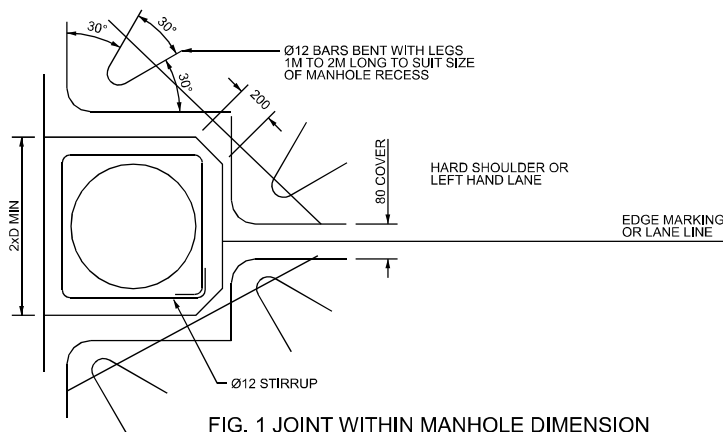
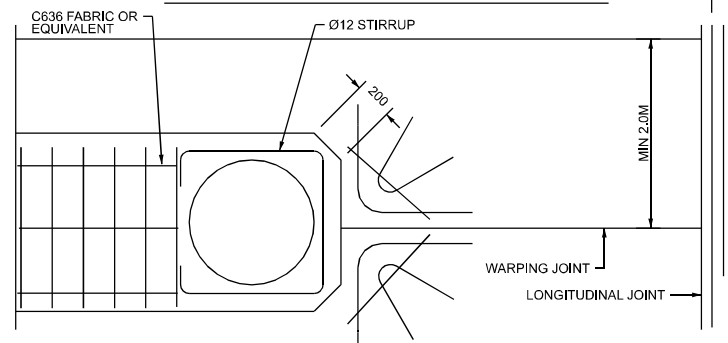

FIG. 1 JOINT WITHIN MANHOLE DIMENSION
FIG. 3 EXTRA JOINT AT MANHOLE POSITION TO BE A WARPING JOINT
5. NORMAL JOINT SPACING MAY BE ADJUSTED BY UP TO 1M SO THAT THE MANHOLE IS ASTRIDE OR ADJACENT TO THE JOINT AS SHOWN IN FIGS 1 & 2. IF THIS IS NOT POSSIBLE AN EXTRA JOINT SHALL BE FORMED IN THAT LANE AT THE MANHOLE POSITION AS IN FIG. 3 AND THAT JOINT SHALL BE A WARPING JOINT.